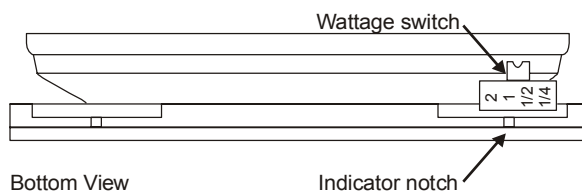

Figure 2: Wattage switch
3. Slide the wattage switch to the desired wattage tap (2 W, 1 W, 1/2 W, or 1/4 W) by aligning it with the indicator notch below the switch. See Figure 2.